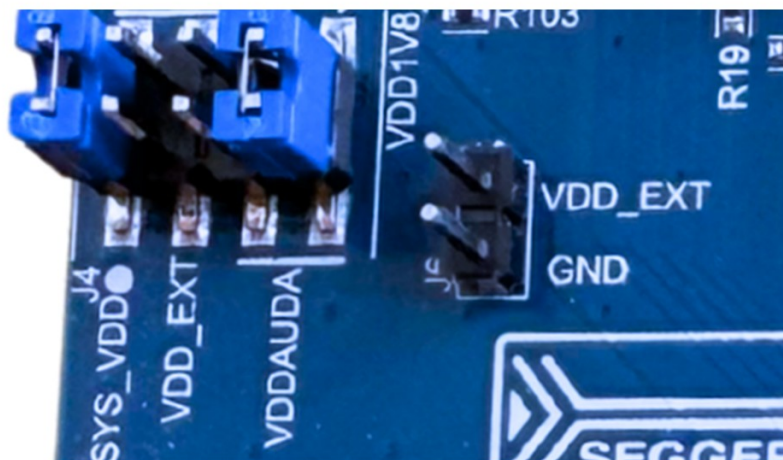
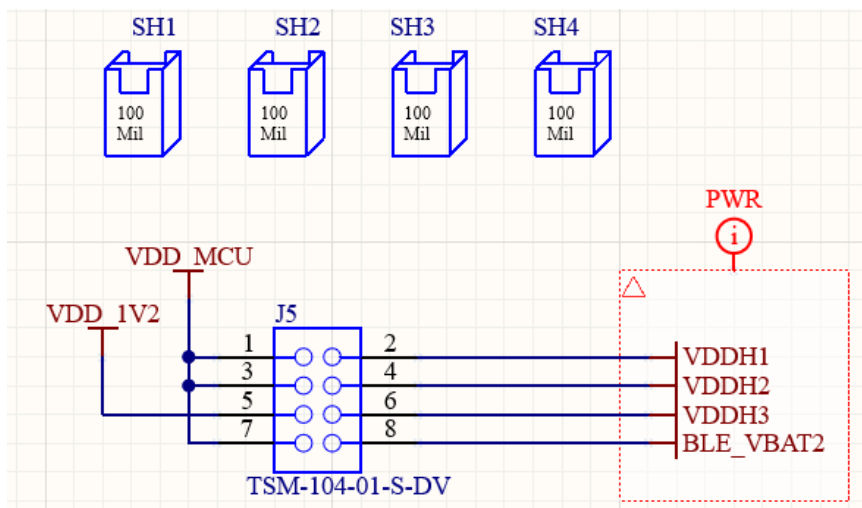

Figure 12. J6 External Supply Header
Figure 15. J5 Power Supply Jumper Connections
- Provide externally-supplied power via J6 in Figure 12.
Figure 15 shows the power sourcing for VDDH1, VDDH2, VDDH3, and BLE_VBAT2. VDDH1, VDDH2 and BLE_VBAT2 are always sourced from VDD_MCU, and VDDH3 is always sourced from VDD_1V2. This header and jumpers are here solely for current measurements.
Current consumption of the Apollo510B EVB can be measured by connecting an ammeter between the corresponding DUT supplies. Refer to Figure 12 or Figure 15 to measure the current draw from the power supply of interest. Before using an ammeter, turn the power off, remove the corresponding jumper and install the ammeter properly prior to powering the board back on. When the current measurements have been completed, reposition the jumper at its former location.